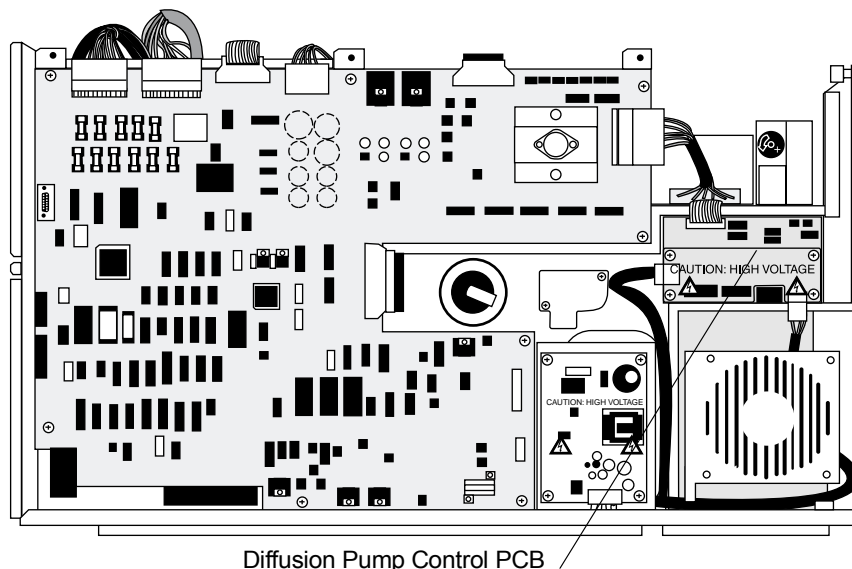

Figure 7-15. Left Side View, Showing Diffusion Pump Controller
3. Remove the top and left side covers of the GCQ *Plus* (page 1-12). Note the exposed the Diffusion Pump Control PCB (Figure 7-15).